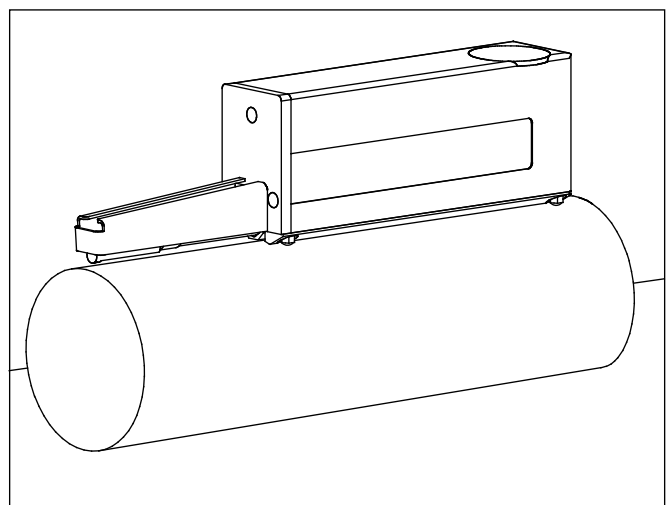

Fig. 6
- For testpieces with diameters larger than 72 mm (2.835 in), the MarSurf GD 25 / GD 25 plus is supported by the feet which must be arranged for four-point support (see Fig. 6).